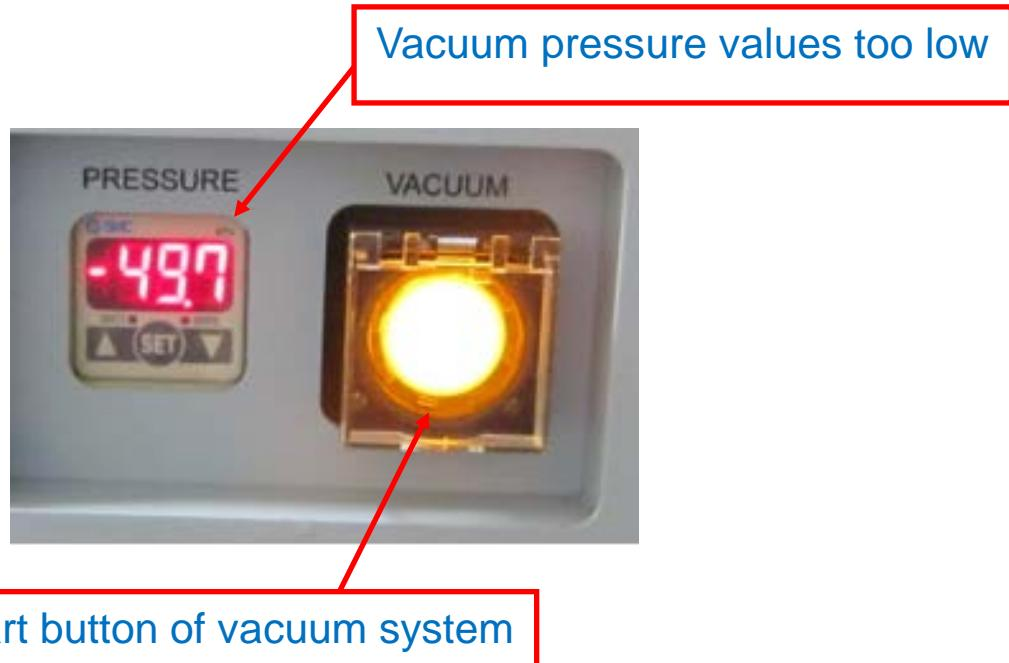

Figure 4-3 Vacuum pressure values too low example
- (2) Test Head: It consists of start button of vacuum system and digital pressure meter as *Figure 4-3* shows.
Negative pressure: It indicates gaseous state is lower than atmospheric pressure that is "vacuum" we called. The system is suggested not lower than -70Kpa when vacuum pressure is insufficient. The value can be observed from digital pressure meter at left of Test Head, for more detail see *Figure 4-3*. It means there is a certain part under air leaking that causes vacuum pressure value too low. Next to exclude the reasons of generating vacuum pressure too low.